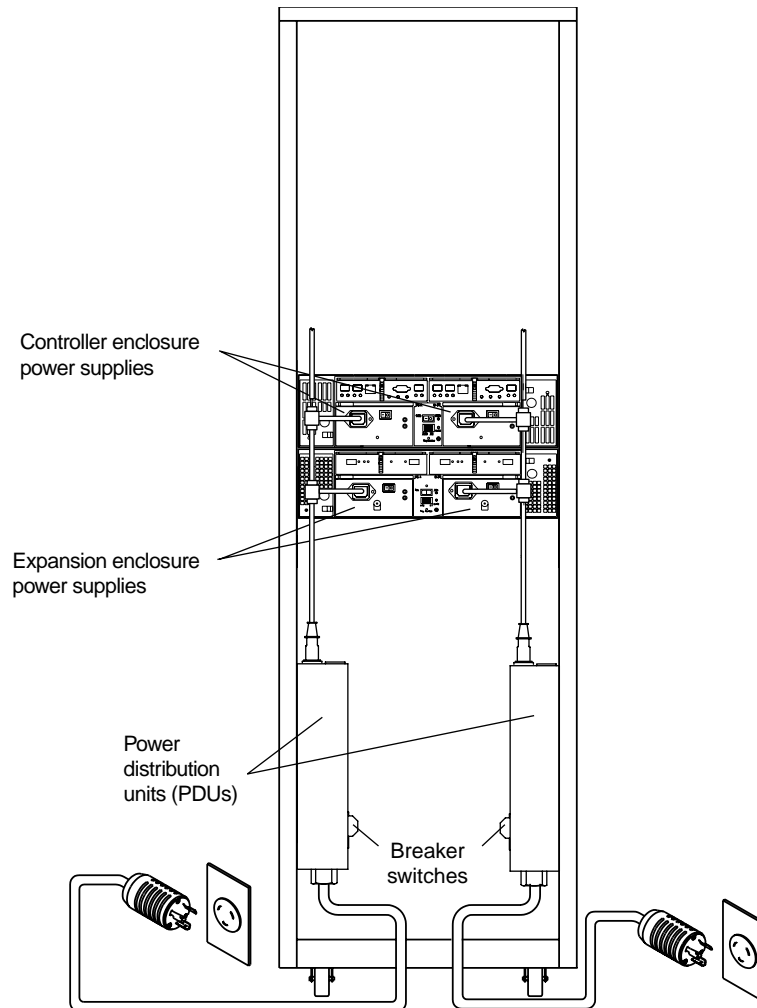

Figure 5-9 PDU Cabling
5. To ensure power redundancy, plug each power distribution unit into a separate AC power circuit (see Figure 5-9).
7. When all controller and drive enclosure power switches are in the ON position, flip the breaker switches of both PDUs to the ON position (see Figure 5-9).